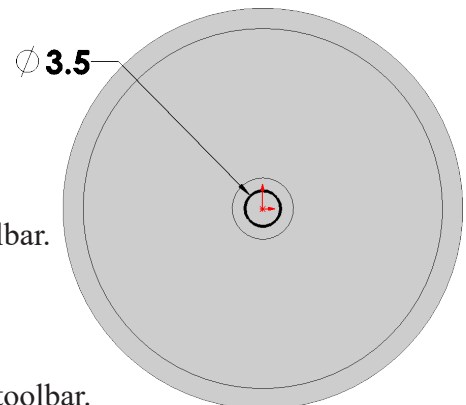

Fig. 10
Step 3. Click **Circle**  (S) on the Sketch toolbar.
Step 4. Sketch a circle for the hole at Origin , Fig. 10.
Step 5. Click **Smart Dimension**  (S) on the Sketch toolbar.
Step 6. Dimension axle hole **diameter 3.5**, Fig. 10.